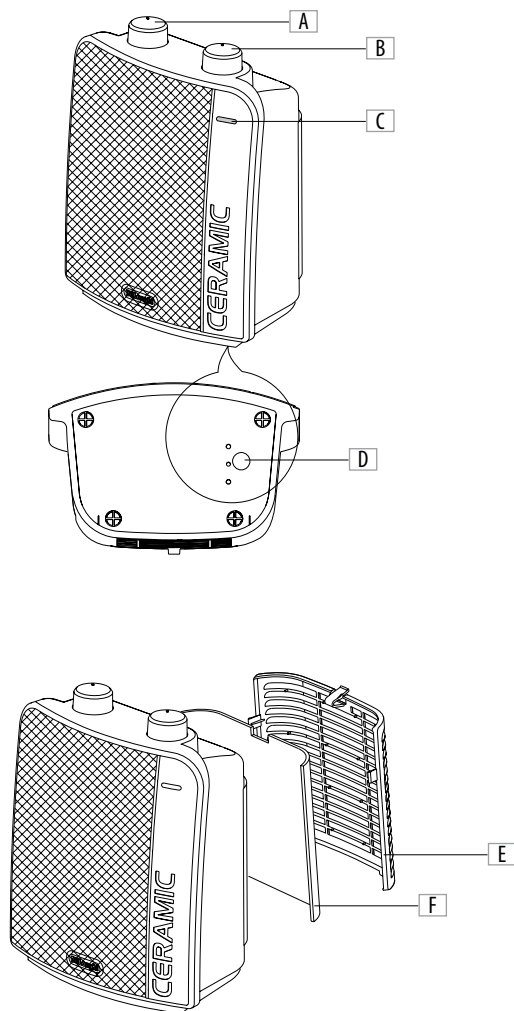

Fig. 1
(see fig. 1)
- To clean the filter, remove the rear grille (**E**) by pulling it outwards (fig. 1).